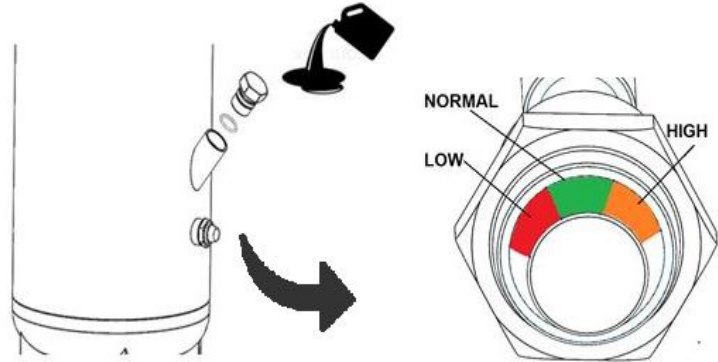

Figure 19 Oil Filling
- **Check the oil level of the compressor, add oil if required (See, Figure19).**